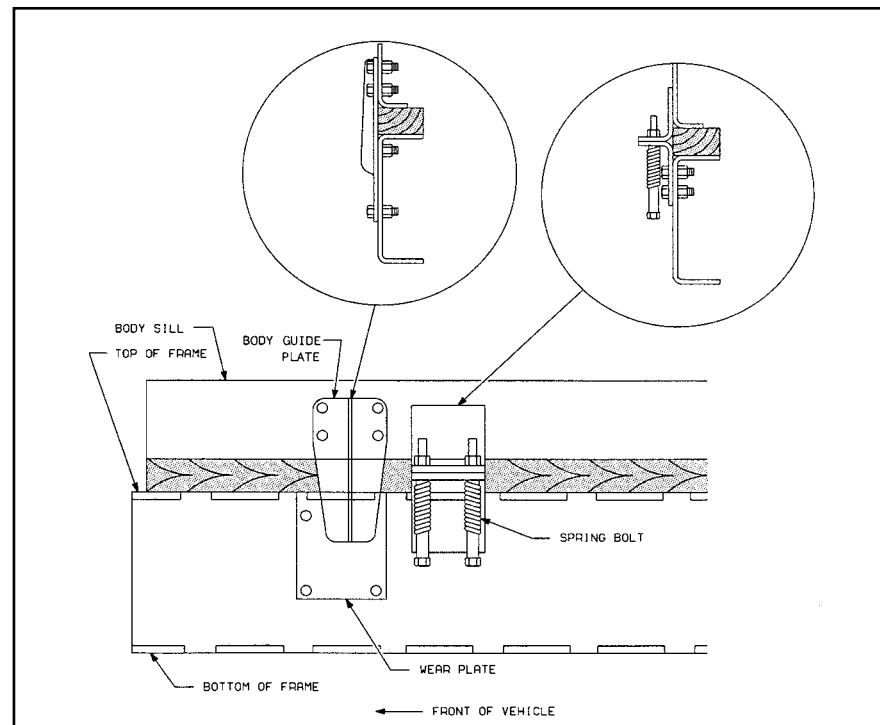

Figure 28
- Use a body guide (ribbed for extra strength), as shown in Figure 28, to restrict lateral movement of the body and relieve shear stress on mountains. Bolt or weld the body guide to the body sill near front end of the body. It should extend below the body sill and contact the wear plate bolted to the frame side rail.
- Use spring-loaded, angle-type mountings (Figure 28). They may be bolted or welded to the body sill. However, always use bolts to attach them to the frame side rail. Do not weld directly on the frame side rail. Position mountings to allow a clearance of at least 6 mm (0.25 in.) between upper and lower brackets. Use SAE Grade 8 or Class 10.9 metric bolts with PTN nuts. Spring-loaded mounting bolts also require PTN nuts. The springs should be as short as practical, allowing preloading which will help prevent excessive “body roll” during operation, and a minimum of 25 mm (1 in.) at the front of the body before becoming solid.